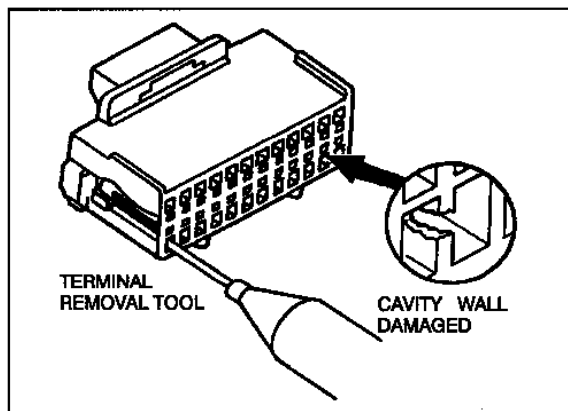

Figure 56 Insert Tool Straight into Front of Connector Cavity
3. Locate the terminal lock tang in the connector cavity, then insert the Terminal Removal Tool straight into the front of the connector cavity as shown in Figure 56 . Do not angle or rock the tool because it could damage the connector wall.